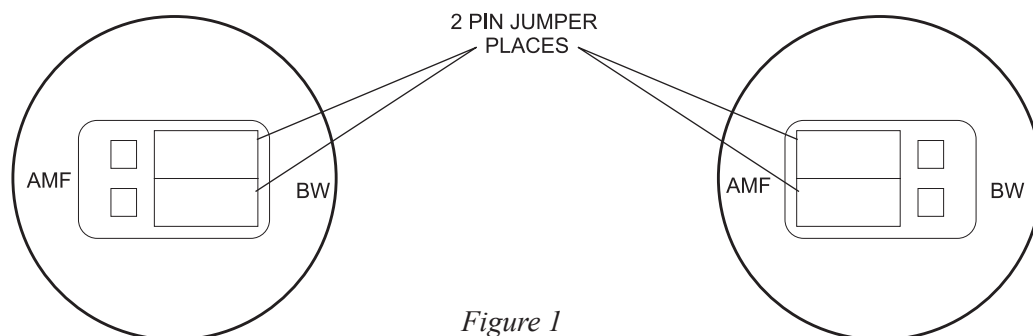

Figure 1
3. Position the two AMF/BW jumpers (Located on the printed circuit board at the end of the 6 position connector, JP1) for the configuration you are using. Refer to *Figure 1* for details on how to place the jumpers. **IT IS VERY IMPORTANT TO INSTALL THESE JUMPERS CORRECTLY. IF THE AMF POSITION IS USED ON A BRUNSWICK SYSTEM, DAMAGE WILL BE DONE TO THE AUTOMATIC SCORING UNIT.**